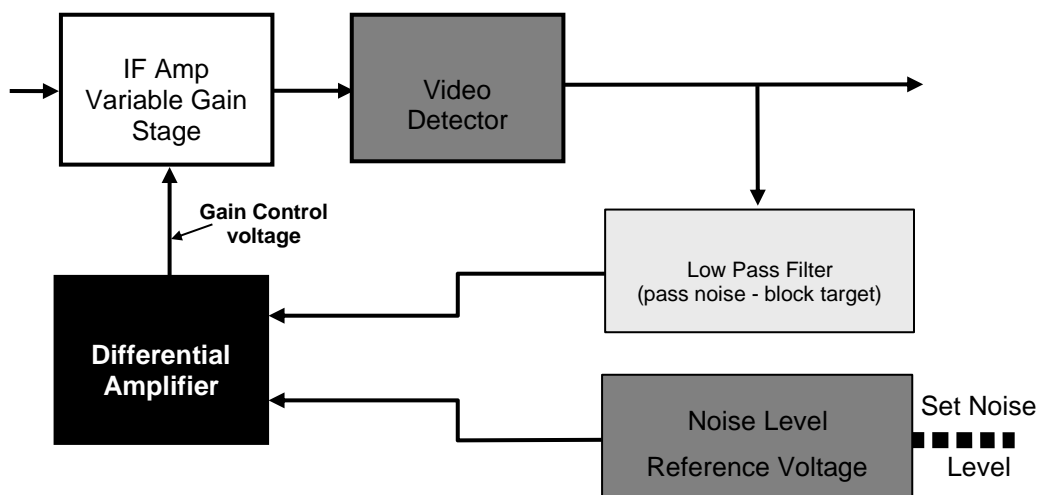

Figure 10 - Adaptive Noise Reduction
57. The adaptive noise reduction circuit in figure 10 is needed to maintain the ability of the radar to see targets against a certain set level of background noise, which if it was to go above a certain level then the noise could eventually mask targets.